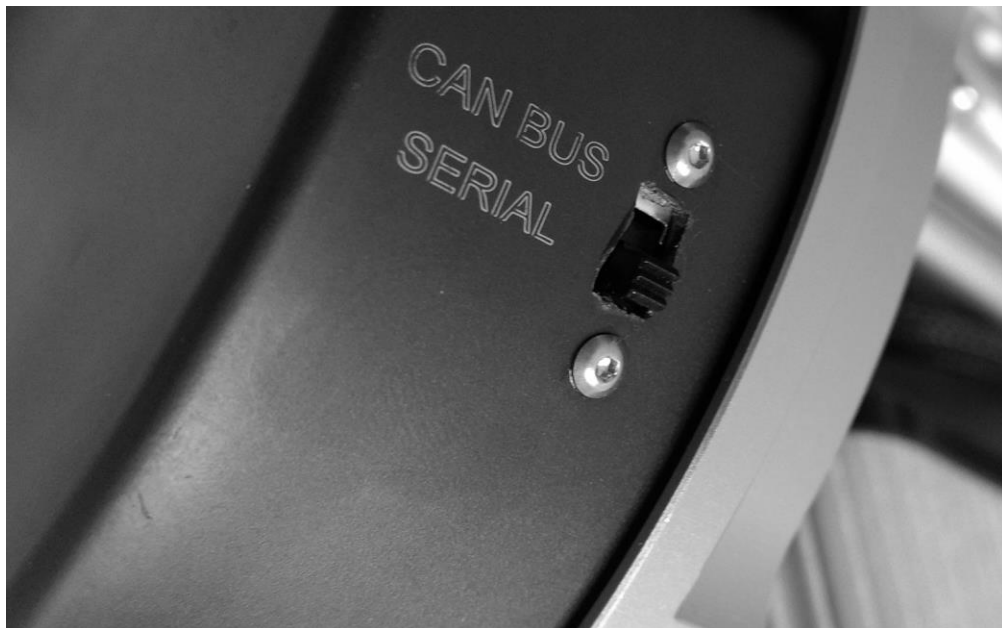

Figure 6: CAN BUS and Serial Switch
2. To change between CAN BUS and Serial communication, slide the switch located on the Genpod® cover towards the desired protocol (**Figure 6**).